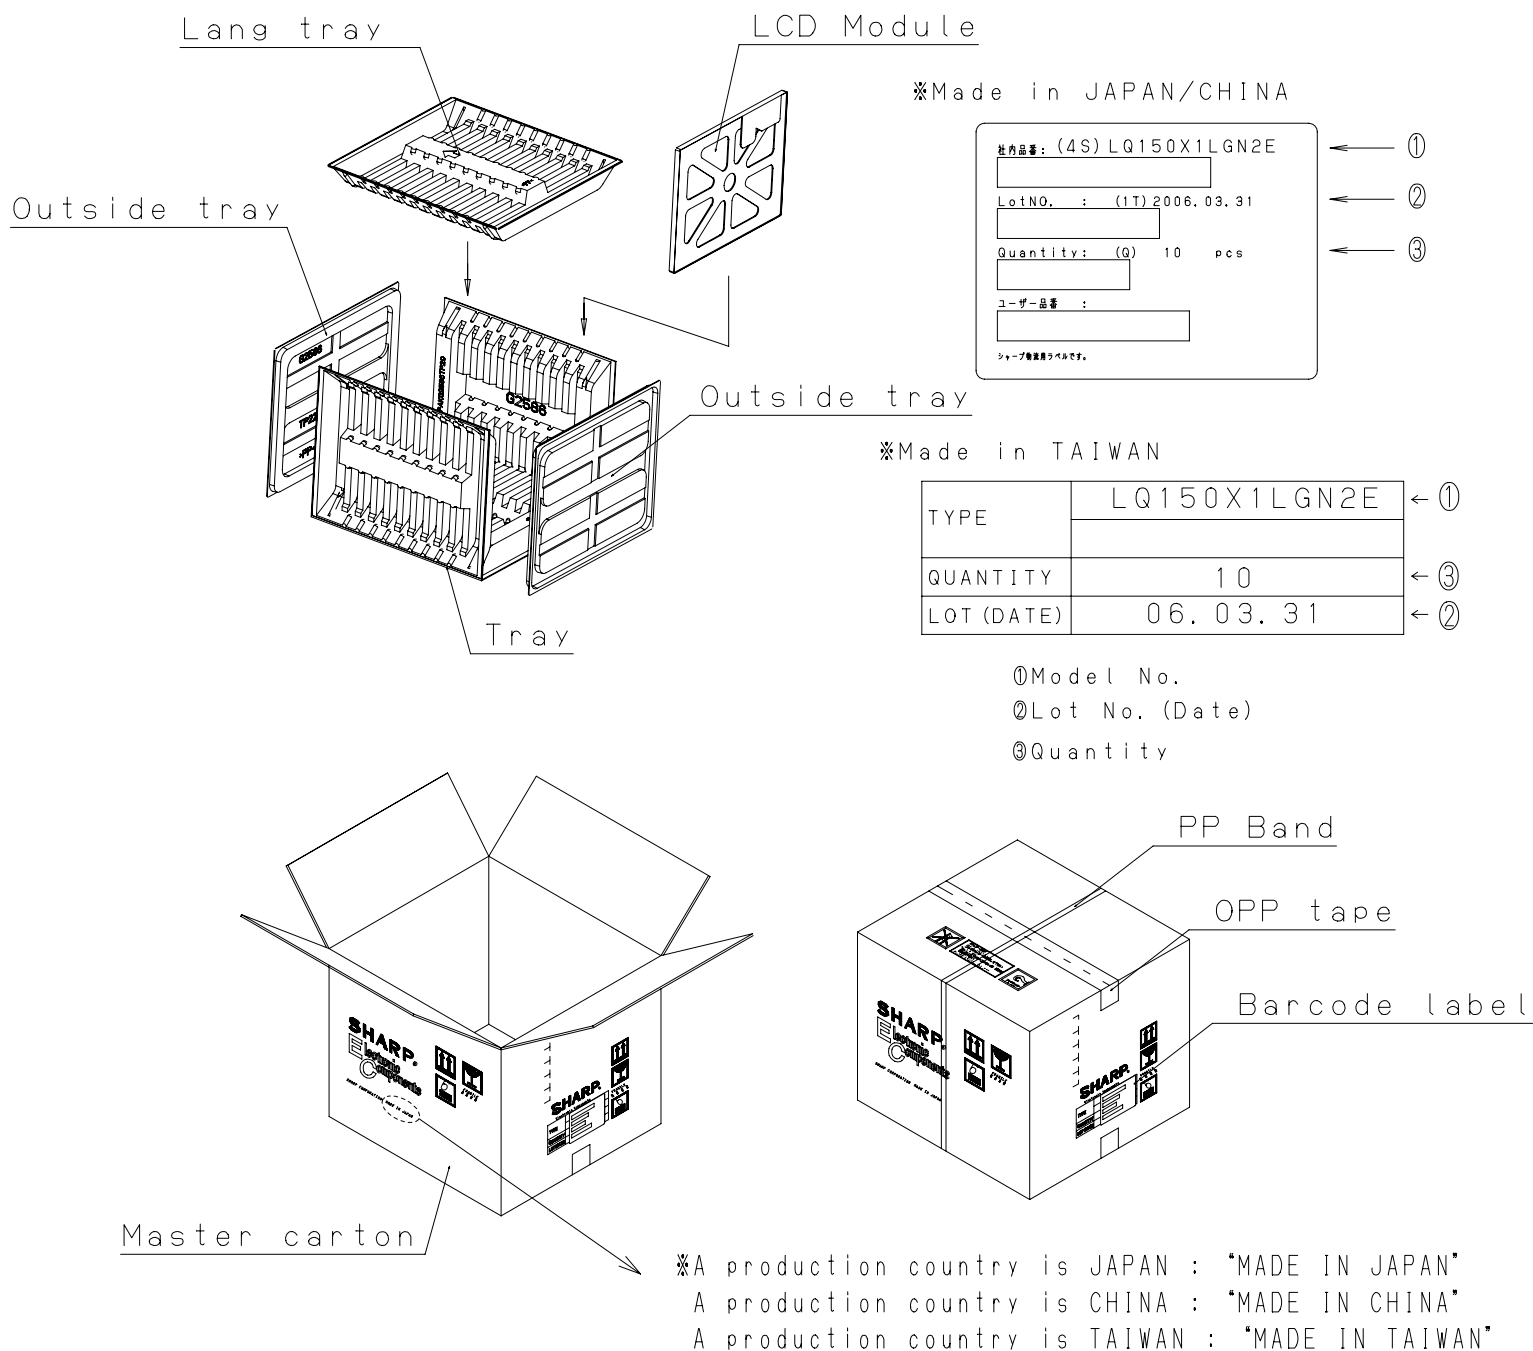

Fig.3 Packing Form (LQ150X1LGN2E)
- f) Packing form is shown in Fig.3